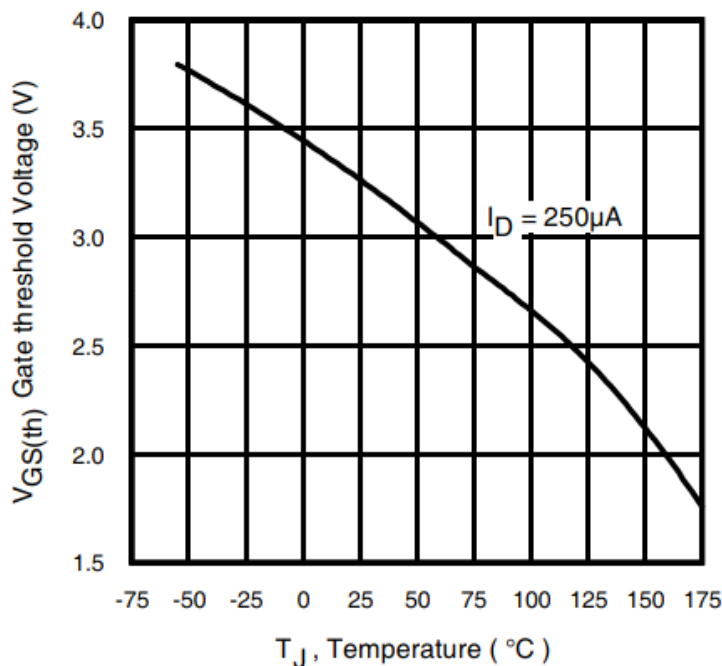

Fig. 14 Threshold Voltage vs. Temperature
7. ΔT = Allowable rise in junction temperature, not to exceed T_{jmax} (assumed as 25°C in Figure 14, 15).
$Z_{thJC}(D, t_{av})$ = Transient thermal resistance, see Figures 14)